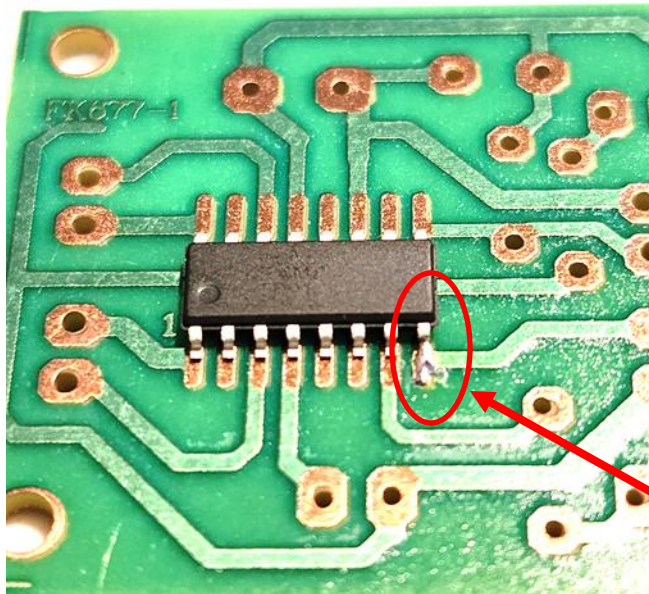

Fig 5. Solder 1 corner leg and then carefully check all the other legs remain aligned with their pads.
- Solder only 1 leg of the IC and then check there has been no movement during the soldering process. (Start with one corner pin) *(Refer to Figure 5)*